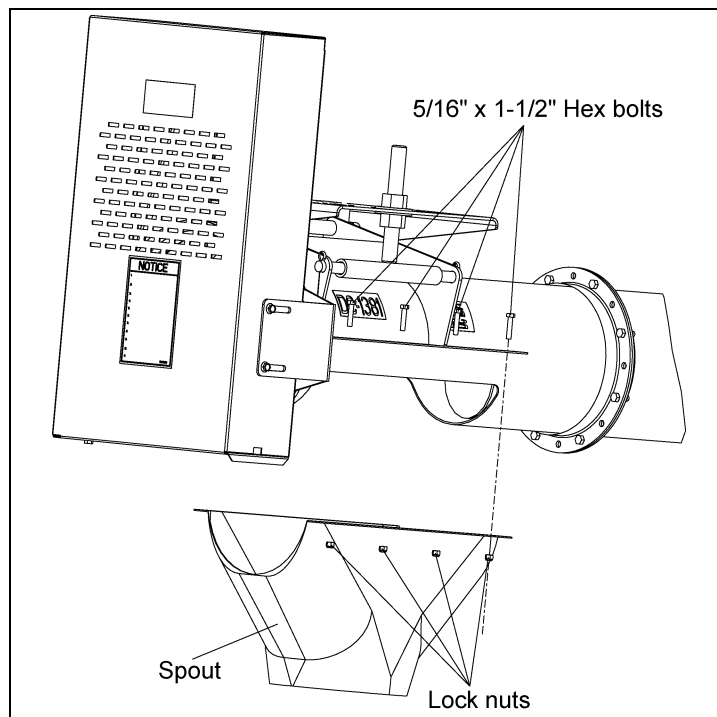

Figure 4R
- B. Attach spout using 5/16"-18 x 1-1/2" hex bolt and lock nut. (See Figure 4R.)